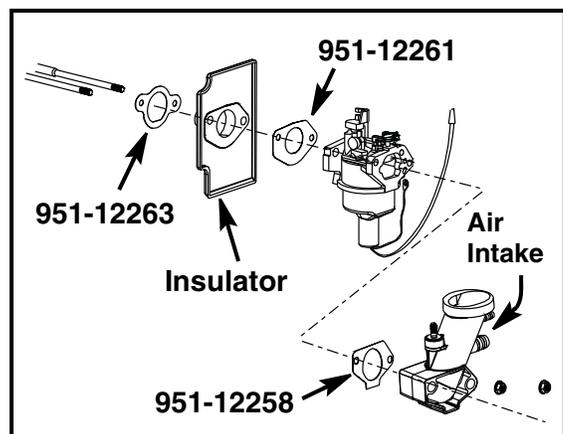

FIGURE 11
G. Install a new gasket, 951-12263 (Item 3), between the insulator and cylinder head, install the plastic insulator, then a new gasket, 951-12261 (Item 4), between the carburetor and insulator. See Figure 11.
I. Install a new gasket, 951-12258 (Item 5), between the air intake manifold and the carburetor. Install the air intake manifold onto the mounting studs. See Figure 11.